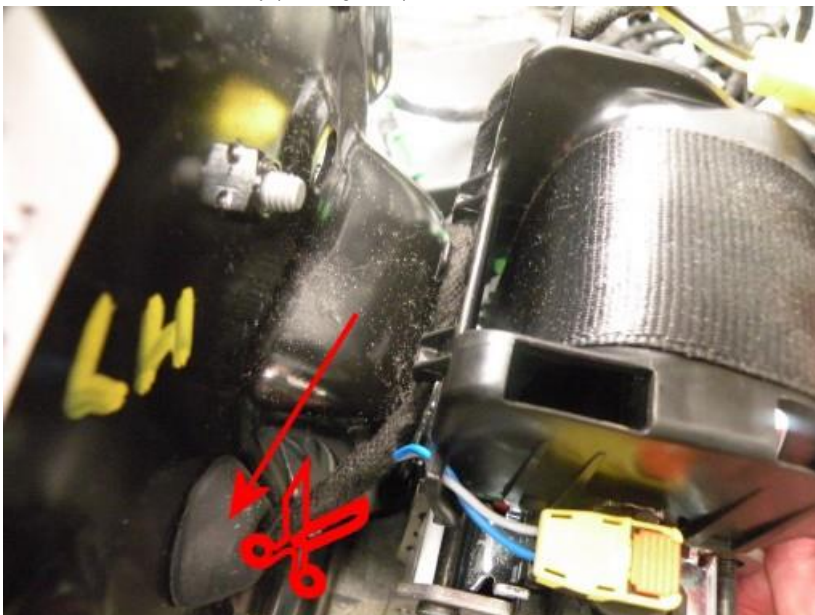

Figure 7
16. Referencing figure 7 cut the plugs off the harness, push out the grommet (arrow) and discard. Tape back the now redundant end of the